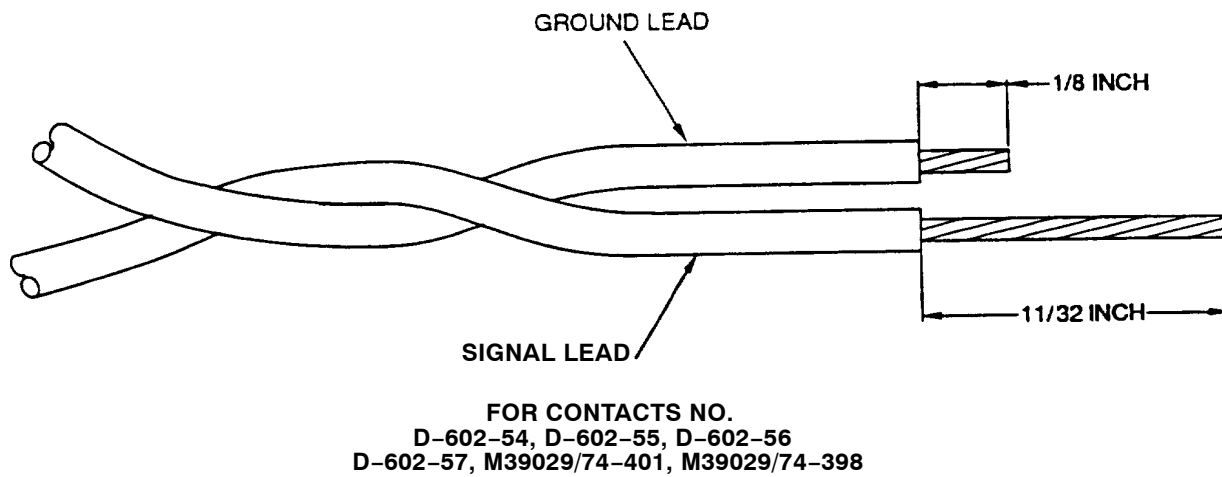

Figure 16. Strip Dimensions for Twisted Pair Solder Contacts
- a. Strip wire in accordance with Figure 16.